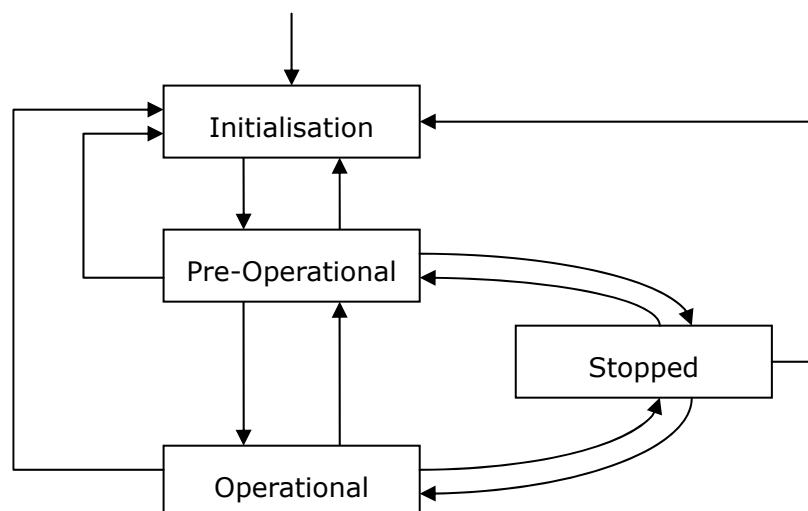

Figure 1: State diagram of a node
**NMT** (Network Management) belongs to master-slave mode. One NMT master can correspond to several NMT Slaves. NMT master detects status of each node of the network and completes status conversion. It supports the function of monitoring the device's status by heartbeat, Node guarding or Life guarding. The diagram in Figure 1 illustrates the major states a slave node can be in. Starts the CANopen network or power on a node, it goes into NMT state Initialisation. At the end of initialization the slave node tries to transmit its boot-up message to NMT master to report that boot-up has been finished and has entered pre-operation status. An NMT master can switch individual slave node or all nodes back and forth between the three major states: Pre-operational, Operational, and Stopped.